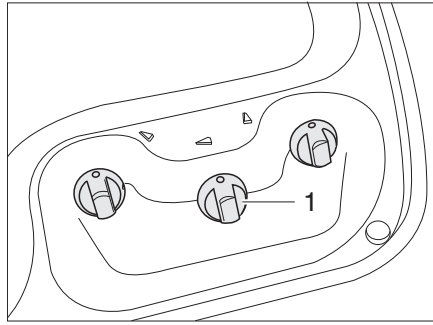
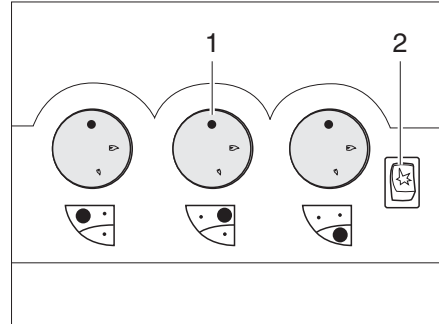

Fig. 258 Operating controls for gas cooker (without piezo ignition button)
Fig. 259 Operating controls for gas cooker (with piezo ignition button)
- Turn the control knob (Fig. 258,1 or Fig. 259,1) on the burner you wish to use to the ignition position (large flame).
- If an ignition button (Fig. 259,2) is present: Create a spark by pushing the ignition button.